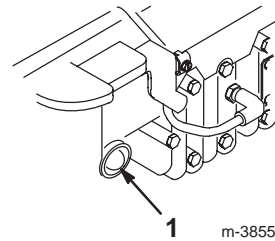

Figure 11
2. Push the primer 3 times, waiting 2 seconds between each push (Fig. 11).